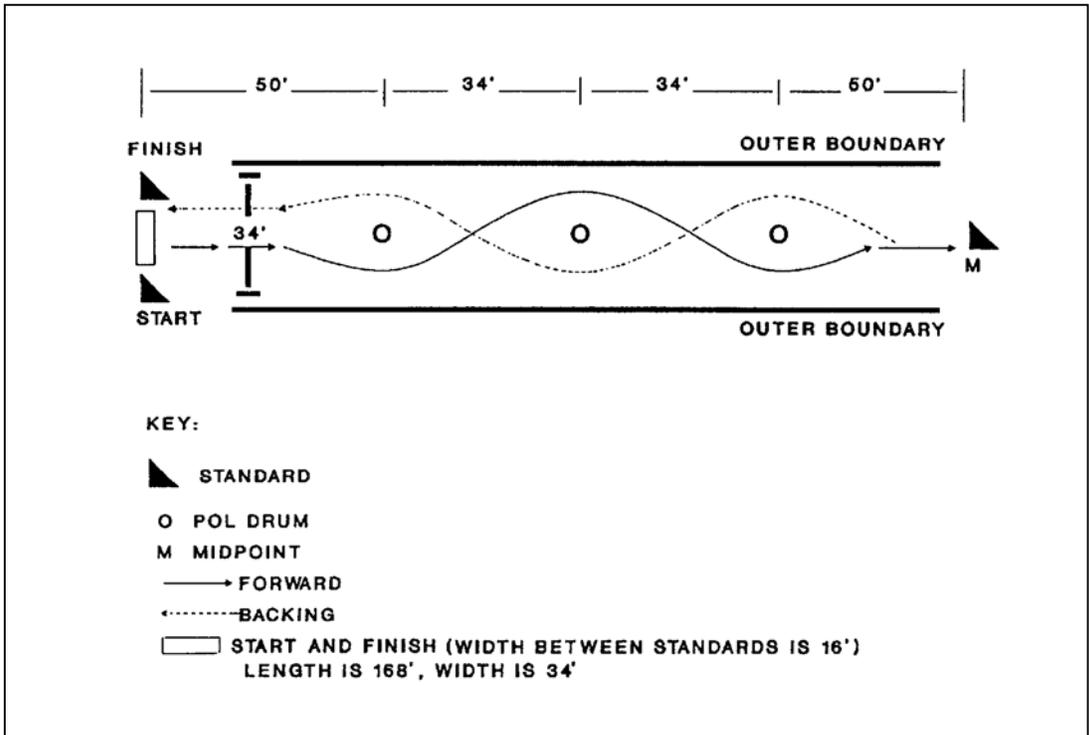

Figure 6-1. Light Vehicle Serpentine Course.
- Figure 6-1, light vehicle serpentine course.